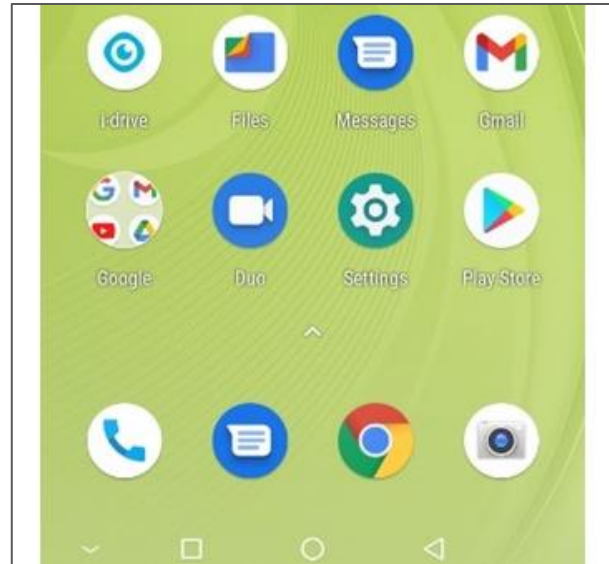

Figure 30
3. The home screen will be shown (Figure 30).